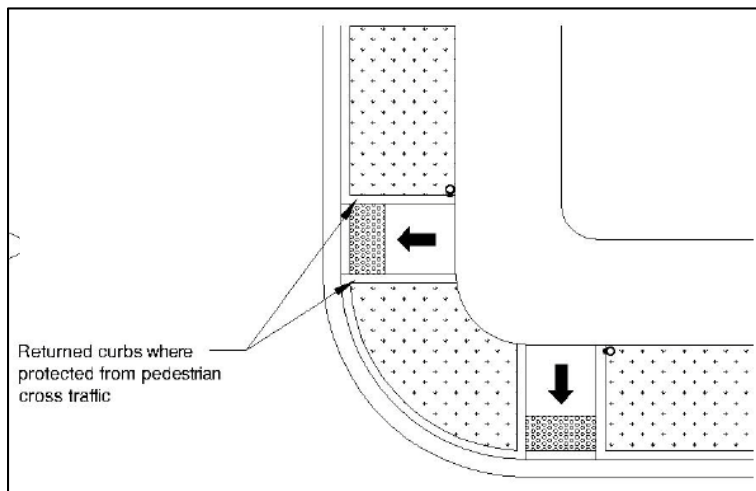

Figure 11 - Protected Curbed Curb Ramp Sides
- Curbed curb ramp sides are protected from cross travel (e.g. grass or other landscaping is adjacent to all curbed sides) (see **Figure 11**)